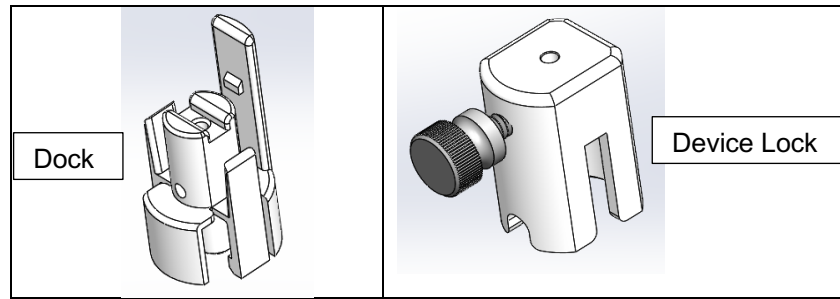

Figure 32: Dock (Left) and Device Lock (Right)
1. Remove the Dock (see Figure 32 Left) and Device Lock (see Figure 32 Right) from the SMARTFrame Array package.